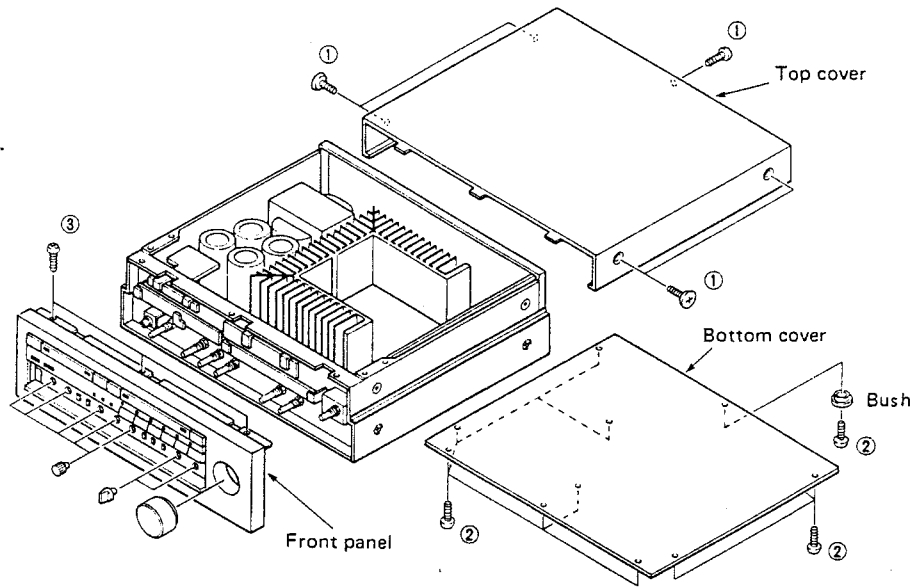

Fig. 1
a. Remove 5 screws (①) in fig. 1.
a. Remove 10 screws (②) in fig. 1.
a. Remove 3 screws (③) in fig. 1.